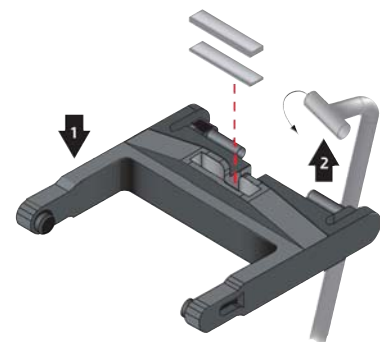

Figure 8-3
12. Remove the bracket (see figure 8-3)